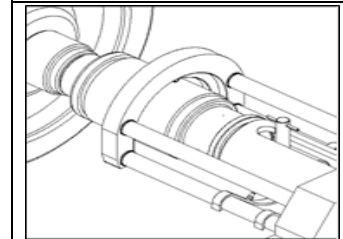

Figure 27 – Insert the Connector Pin
- 5.3.10 Extend the Piston Rod completely and roll the Bearing Puller / Pusher into position, adjusting the Pulling Frame for height, if necessary. Engage the Installing Tube with the Installing Tube Adapter Ring and the Threaded Installing Adapter with the Piston Rod Coupling. The holes in the Threaded Installing Adapter and the Piston Rod Coupling must be properly aligned. Insert the Connector Pin (Figure 27).